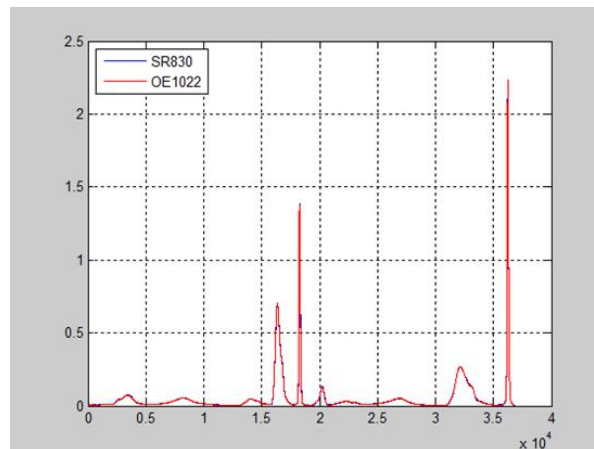

Fig.105 The Contrast Spectrum Curve between SR830 and OE1022
5. Use the SR830 instead of the OE1022 to measure. Repeat the steps above to run the same experiment. Then you will get another spectral curve as is shown in Fig.105. You can see that these two curves measured by OE1022 and SR830 are almost the same.